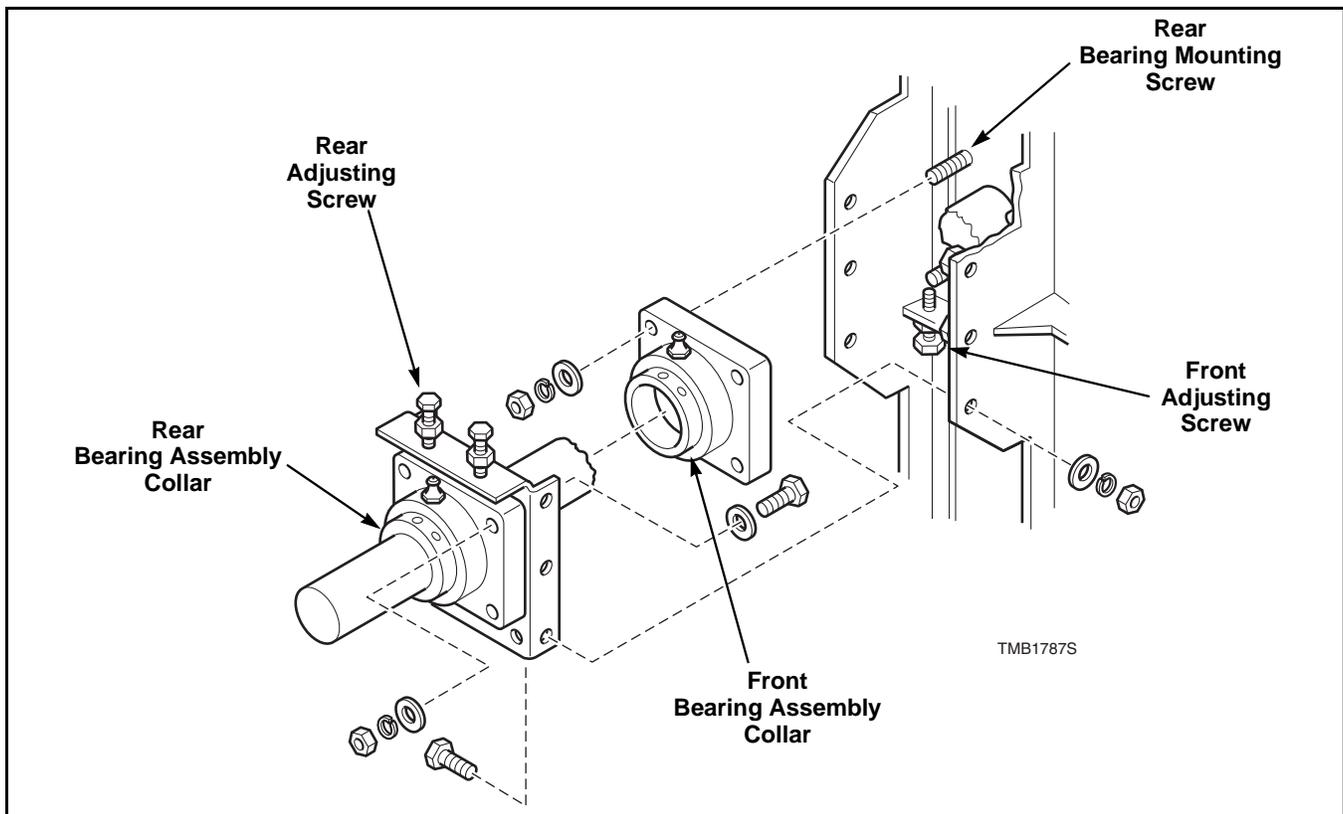

Figure 6
- c. Loosen rear bearing mounting screws. Refer to *Figure 6*.
- d. Loosen the locknuts on rear adjustment screws. Refer to *Figure 6*.
- j. Loosen setscrews in the front bearing assembly collar and rear bearing assembly collar. Refer to *Figure 6*.